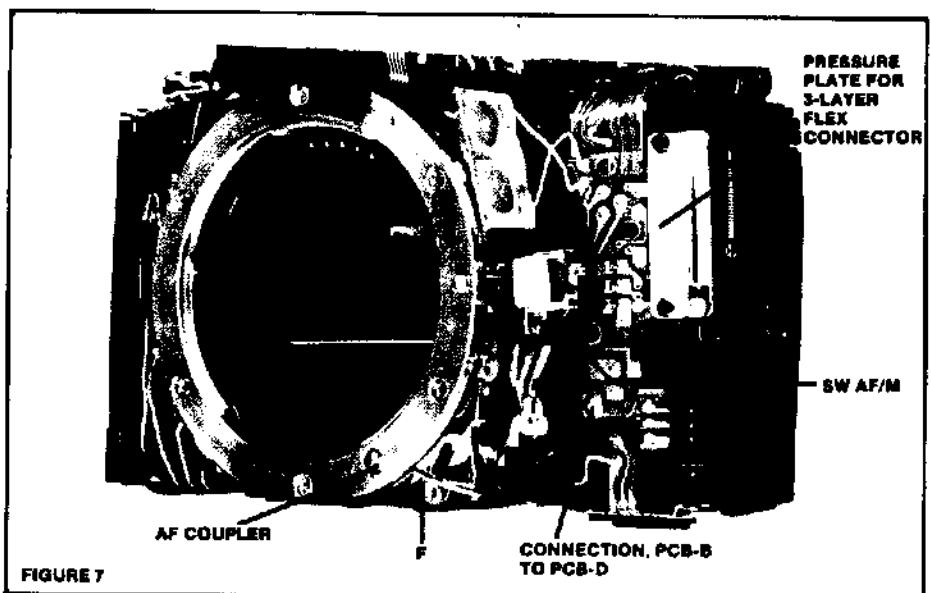

FIGURE 7
c. The AF coupler should now project $1.6 + 0.2$, -0mm from the lens mount. Adjust with screw F, Fig. 7.
SW AF/M. Focus-mode switch, Fig. 7. Open for AF mode, closed for M mode.